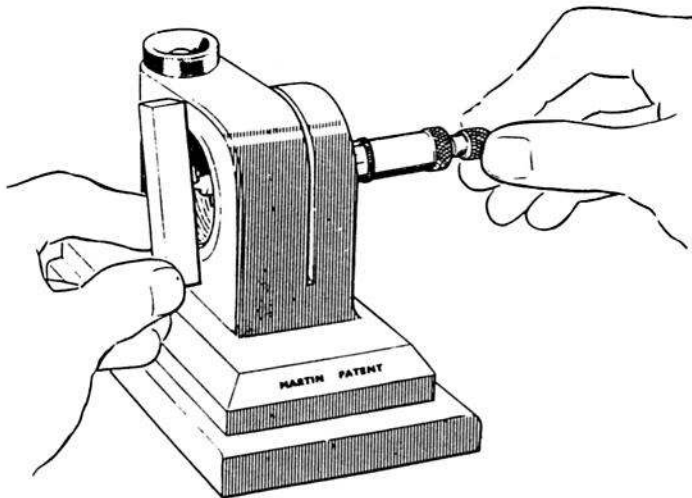

Fig. 2. Checking the zero reading
5. (1) Check the zero reading of the micrometer by placing the straightedge across the face of the screwed housing (fig. 2). Ensure that both the straightedge and the receiving face of the instrument are clean and free from grit. Adjust the micrometer sleeve until the signal lamp lights (this indicates the exact moment of contact between the micrometer and the straightedge). The micrometer reading should be zero  $\pm$  0.0005 in.